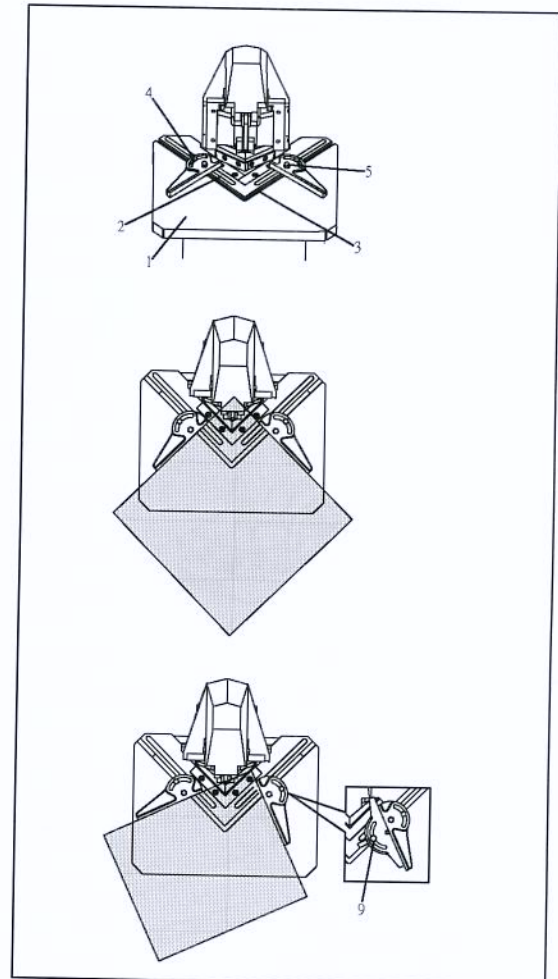

Figure 6
STEP 5: OPERATION Refer to Figure 6